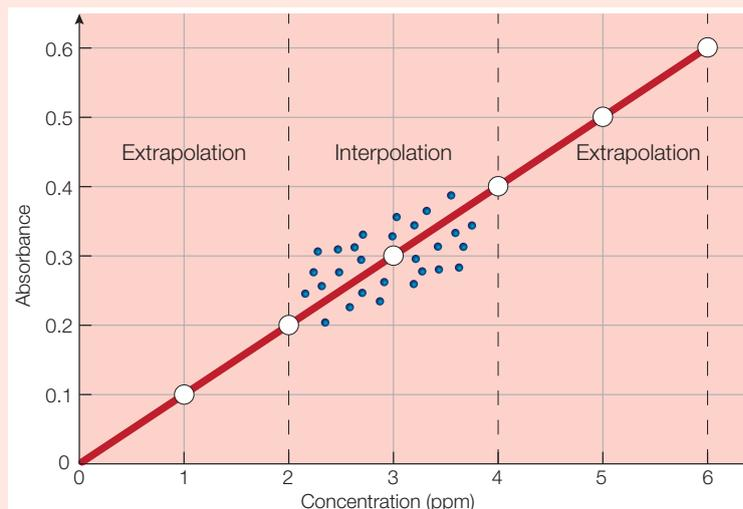

Figure 1.5.15: Interpretation of a graph.
**Interpolation** requires the determination of data points derived from the range of data provided. In AAS, concentrations for unknown samples are interpolated from the calibration line within the data. **Extrapolation** requires extension beyond the provided data based on an established trend (Figure 1.5.15). If the unknown values sit outside of the data, a new calibration graph would be produced or the samples diluted further to fit within the range of standards.
A **line of best fit** is applied in AAS. Typically, a linear relationship is established, producing a straight line. The line is drawn to leave an equal residual distribution of data points above and below the line of best fit (Figure 1.5.15).
**Scatter** is evident in the distribution of data points around an applied line of best fit. Scatter can also be evident in the calculated range of data collated in a table. In AAS, scatter can be seen in absorbance values if more than one reading is taken at each concentration. However, scatter is more commonly identified in the agreement of the data points around the line of best fit (Figure 1.5.15).
It is expected that the line of best fit for AAS should pass through the **origin** (0,0) (Figure 1.5.15). This would indicate that a concentration of zero produces an absorbance of the same reading. This may not occur in the following situations: